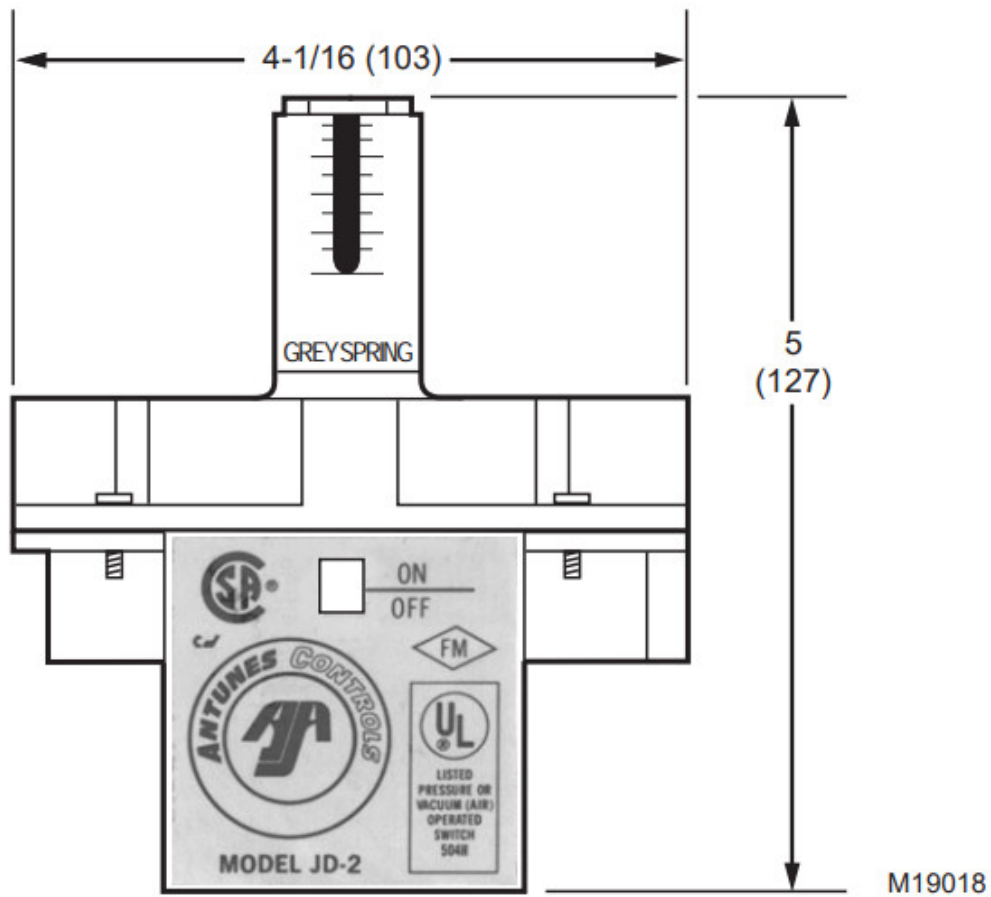

Fig. 1. SPC dimensions in inches (mm).
The Static Pressure Control (SPC) is an adjustable, single-pole double-throw differential pressure switch. It is used to control a floating-type modulating damper for bypass zone applications. Acceptable dampers are MARD or the 90-second ML6161 Actuator. The contacts are rated at 125 VA. See Fig. 1.
1. Locate the SPC near the supply air ductwork. Fig. 1 shows the dimensions in inches (mm).